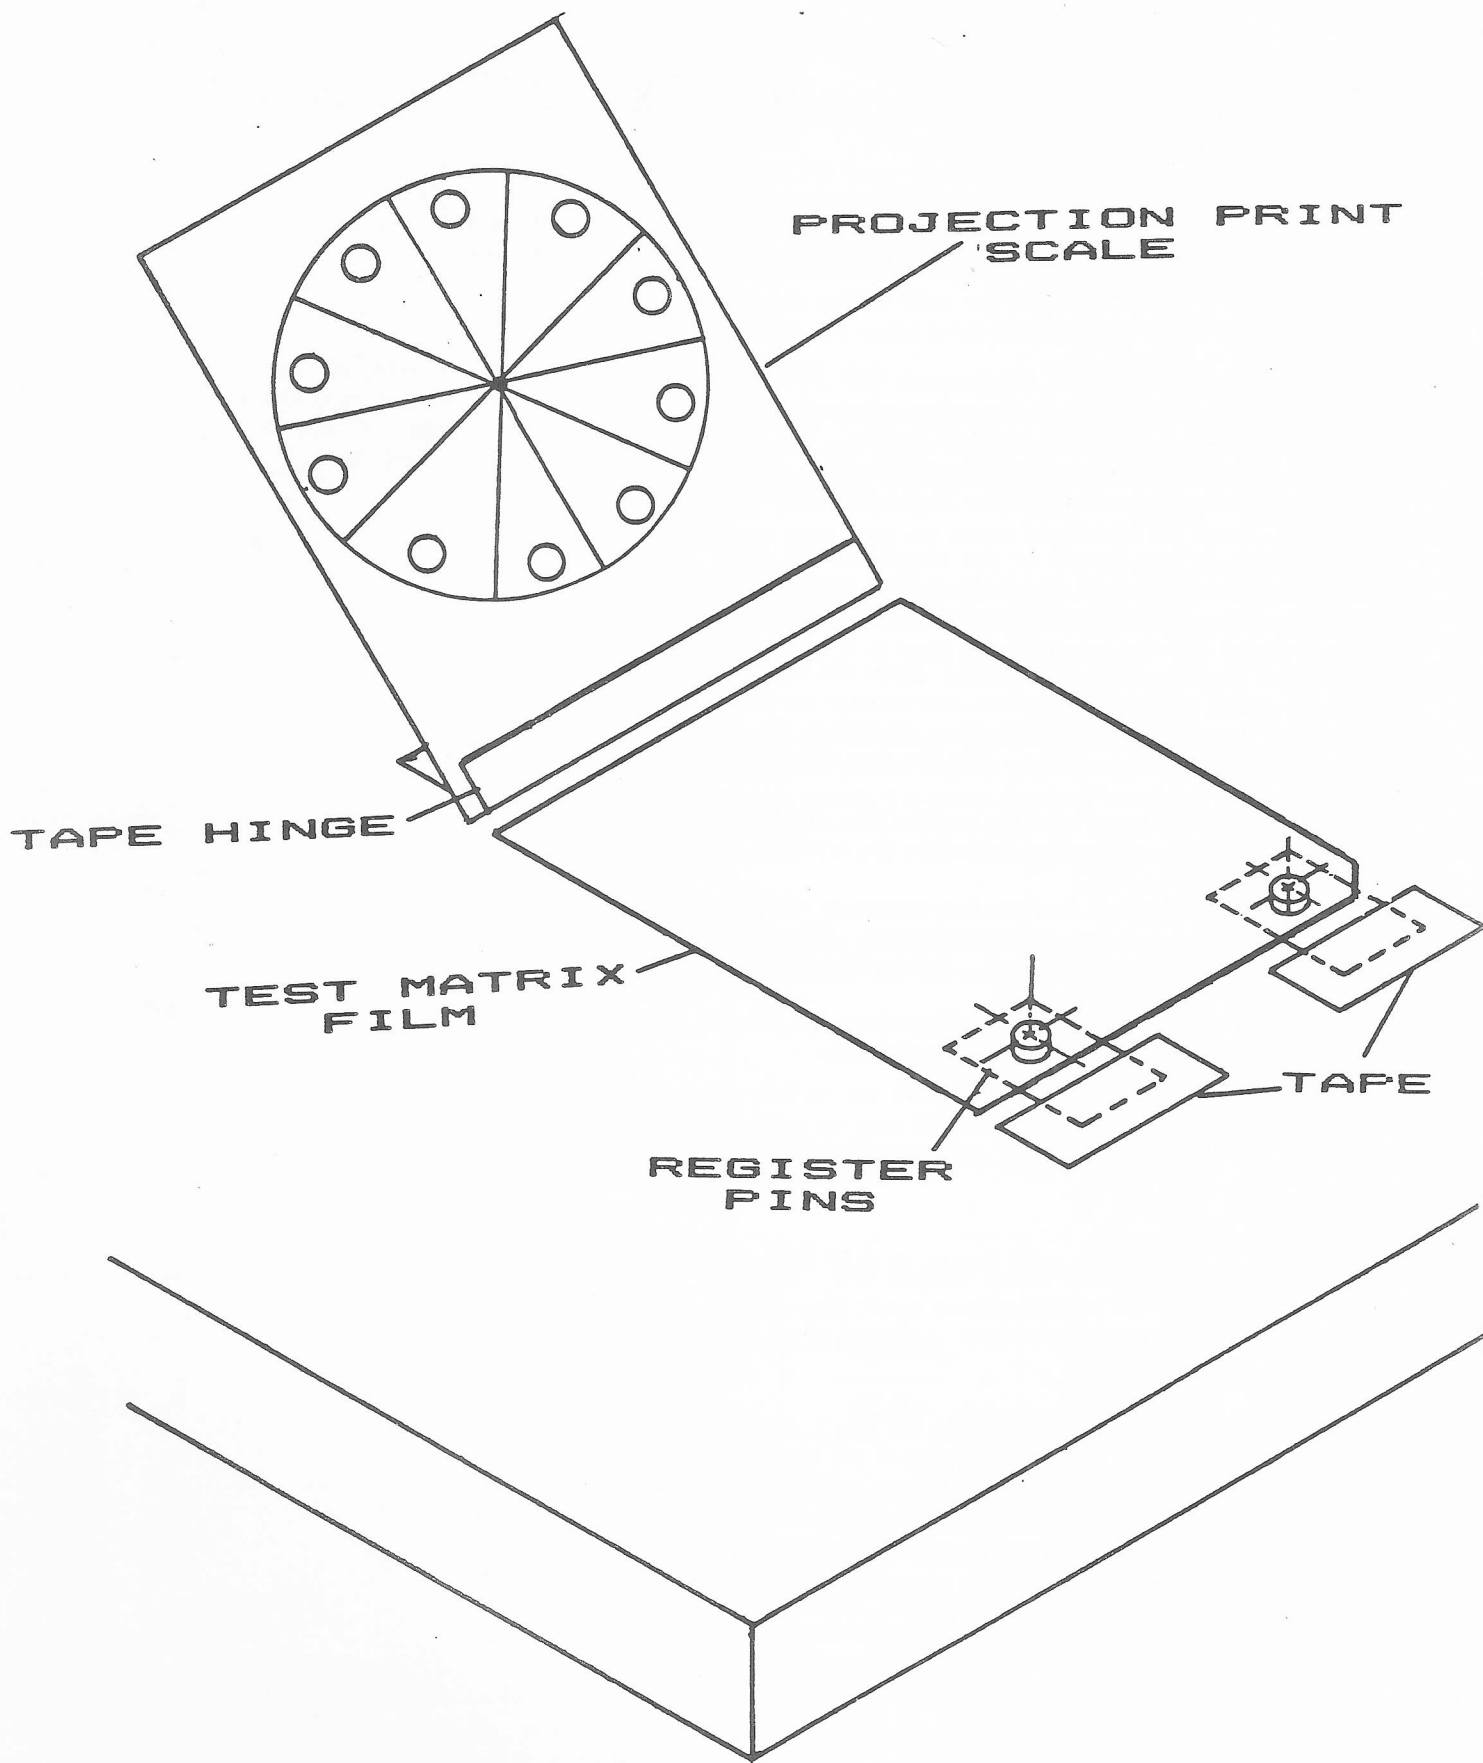

Figure 5.2.1
Tape a set of single pins to the vacuum easel (or enlarger easel) so the negative can be installed under the enlarger at the image center. You don't have to use the vacuum for the test. Position the negative on the pins. Take the projection print scale and position it so its center is overlaying the center of the image. When this is accomplished, tape the outside edge of the projection scale so it acts as a hinge to allow removal of the separation negative. See Figure 5.2.1.
5.2.3.3 Test Procedure #3 (Selected Area Print). This procedure is a variation on the two previous methods. Use this method for the standard test negative. The negative is put into the enlarger and the enlarger is raised to the desired enlargement size. The color negative is left in the carrier. Choose an area in the print such as a neutral gray or skin tone. Make all tests in that portion of the image. Again, use the projection scale and register pins as shown in Figure 5.2.1.